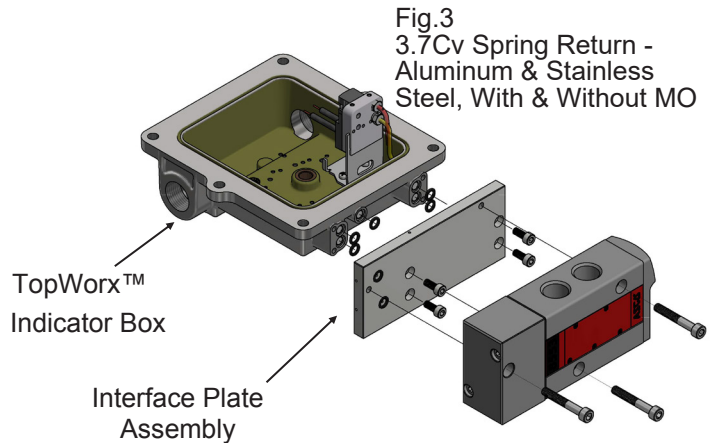

Fig.3
2. Spool Valve is mounted on the Interface Plate Assembly. screws are used to mount the Spring Re-turn versions and 4 Screws to mount the Dual Pilot versions as shown in figures 3 & 4.